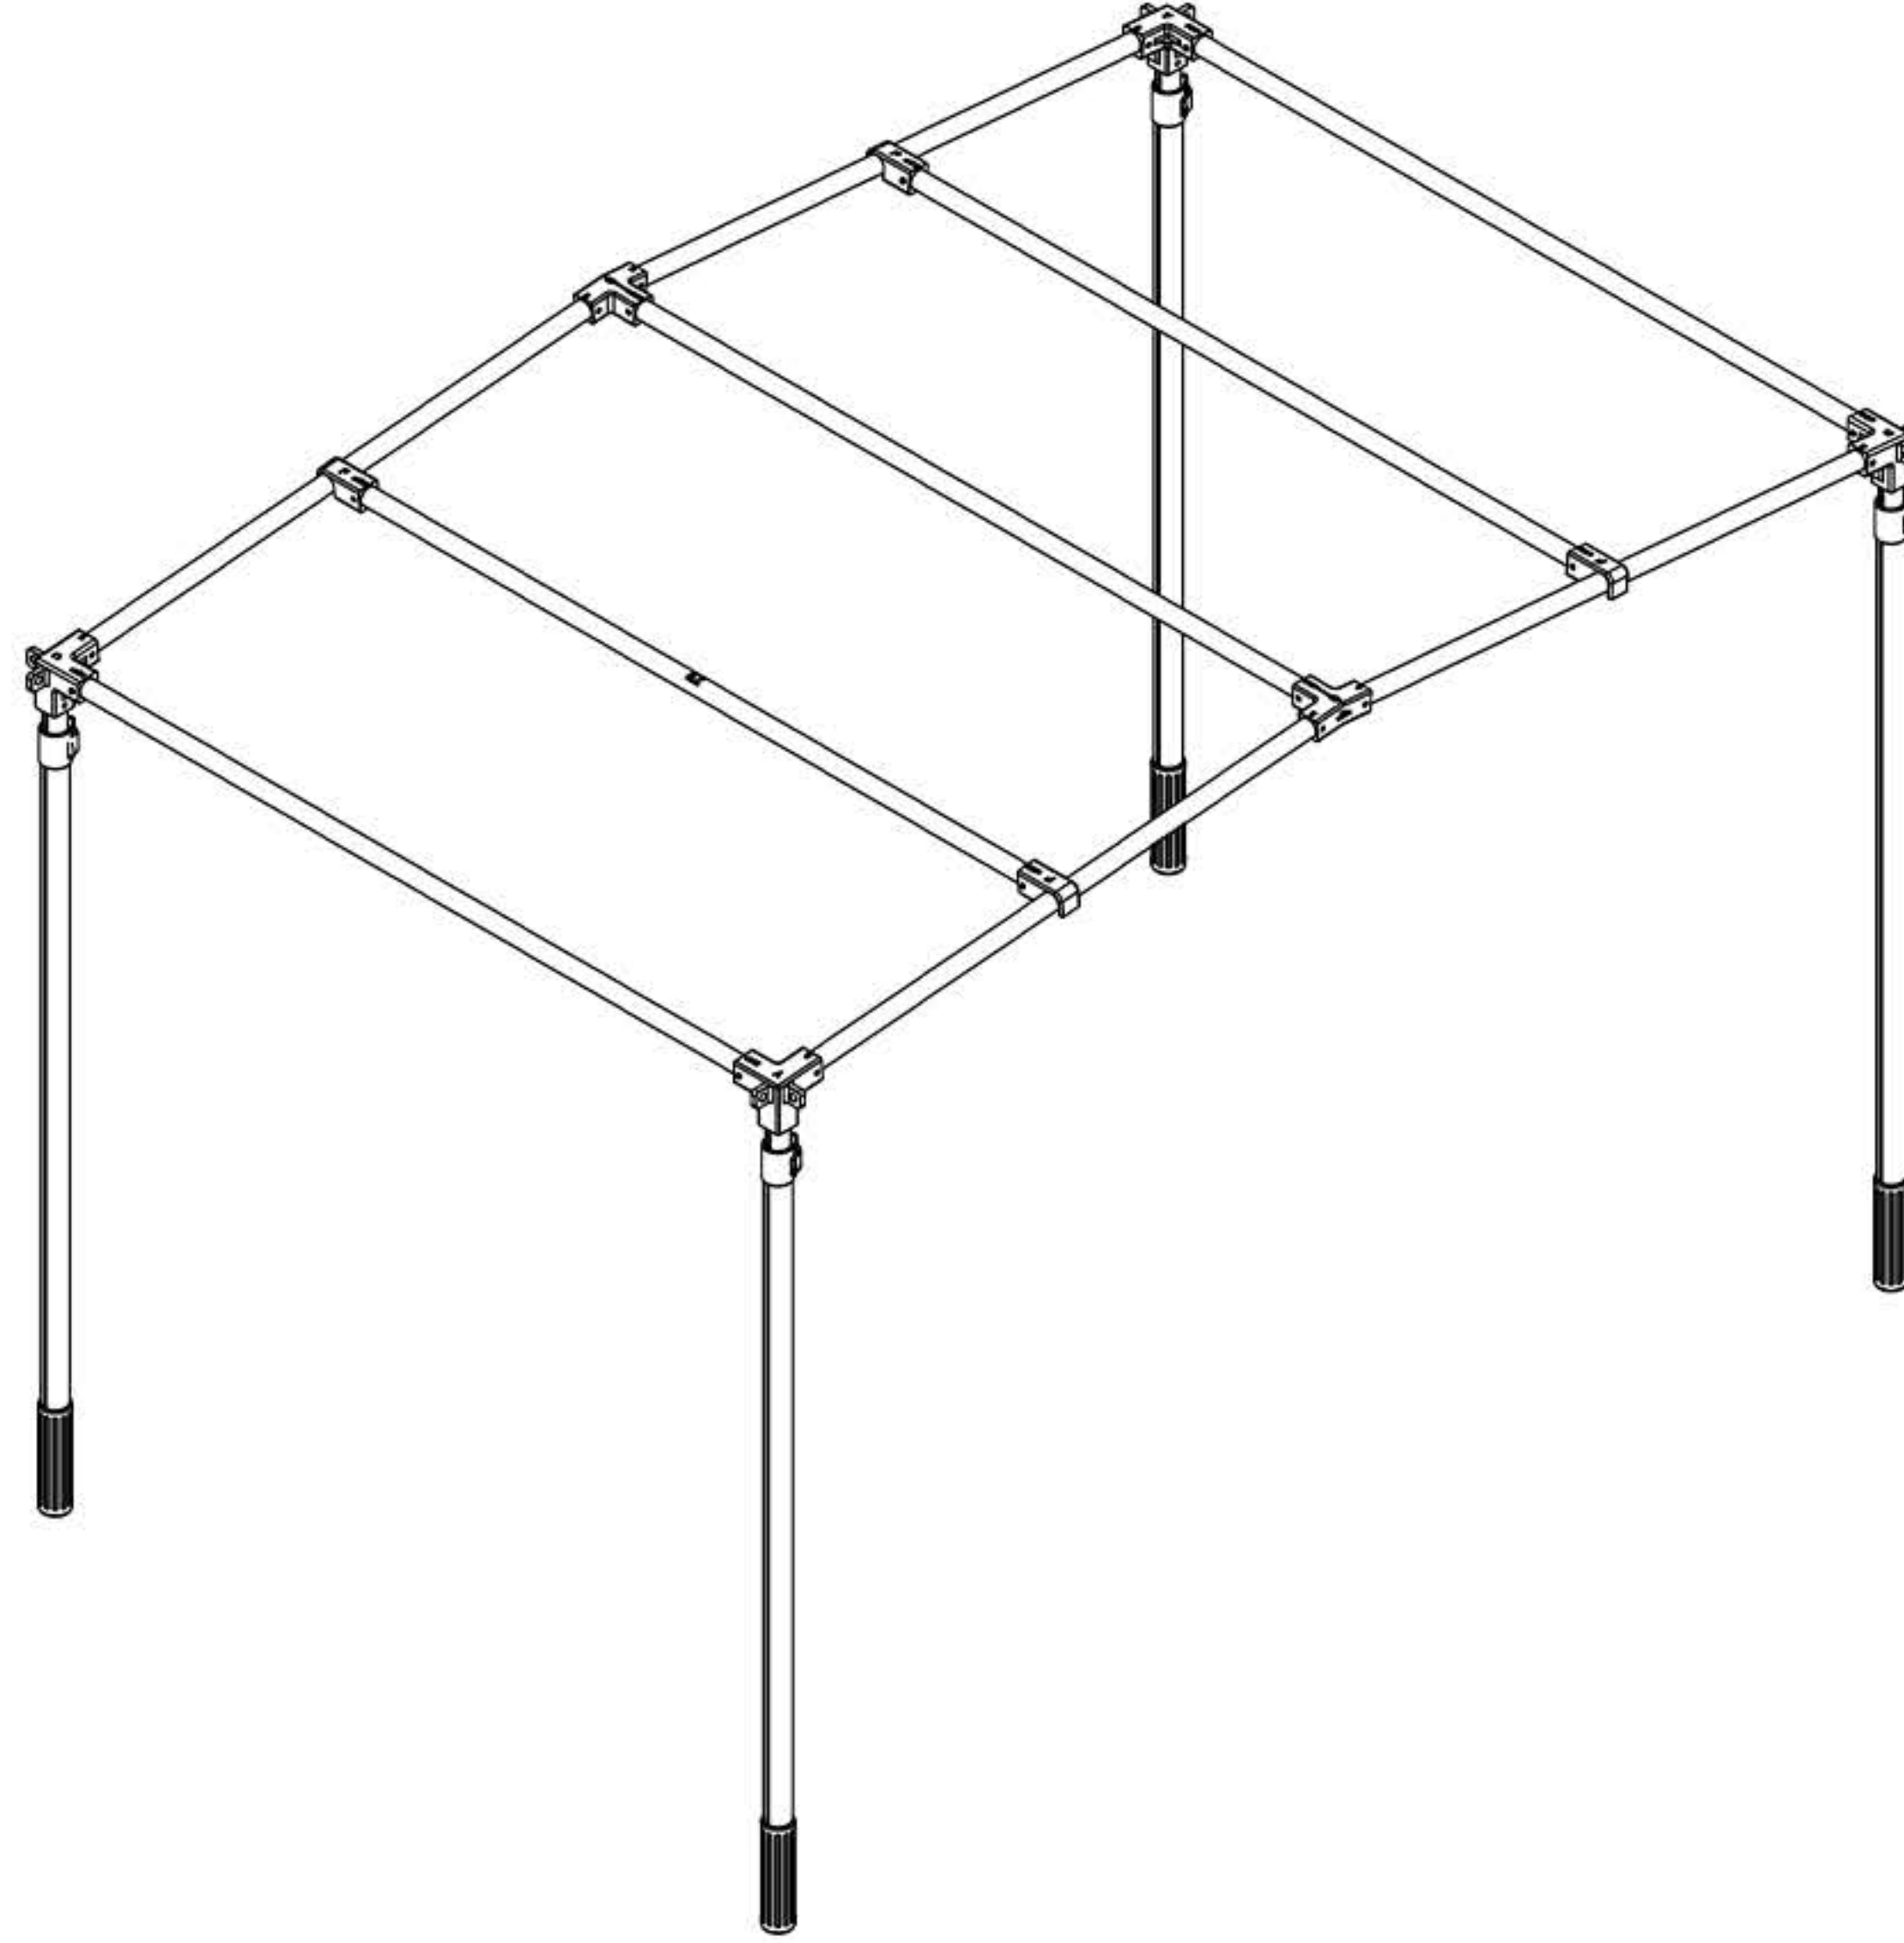

Figure 1- Rendering
- Figure 1 shows the completed structure effect.